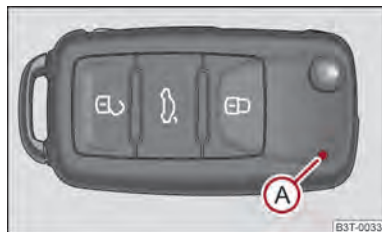
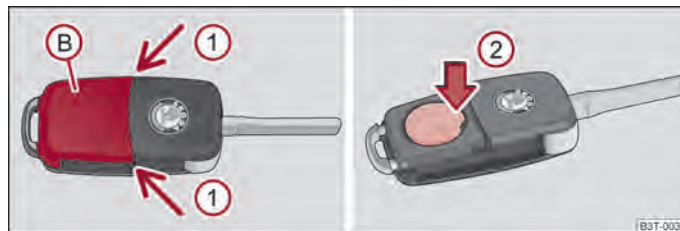

Fig. 10 Remote control key
Fig. 11 Remote control key - remove cover/remove battery
Two remote control keys are provided with the vehicle ⇒ fig. 10.
Each remote control key contains a battery which is housed under the cover (B) ⇒ fig. 11. If the battery is discharged, the red warning light (A) does not flash after you press a button on the remote control key ⇒ fig. 10. We recommend that you have the batteries of the key replaced by an authorised ŠKODA Service Partner. You should, however, proceed as follows if you wish to replace the discharged battery yourself:
- Press off the battery cover with your thumb or using a flat screwdriver at the points of the arrows (1) from ⇒ fig. 11.
- Remove the discharged battery from the key by pressing the battery downwards at the point of the arrow (2) ⇒ fig. 11.
This selection function enables to unlock all the doors, individual doors, both doors on the left and right vehicle side or to unlock the driver and front passenger door at the same time. The other doors and the fuel filler flap remain locked and are only unlocked after repetitive unlocking using the unlock button on the remote control key → fig. 10 or the button for the central locking system → fig. 13.